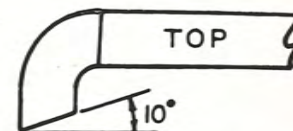

FIG. 118A
Although boring tool angles in relation to the work are somewhat different than those of an external tool, the terms in Figures 118A and 118B are fairly standard and will aid in proper tool grinding.
The boring tool angles shown in Figure 118A often resemble angles like these after continued grinding. New angles, such as the rake angles shown here, may be ground as desired for special jobs.
Boring also requires smaller rake angles, and finer cuts and feeds, due to two reasons: (1) the strength of the tool edge has been reduced by the larger clearance and (2) the boring tool has a tendency to twist and "spring." The tools shown in Figures 118A and 118B are excellent for most boring operations.